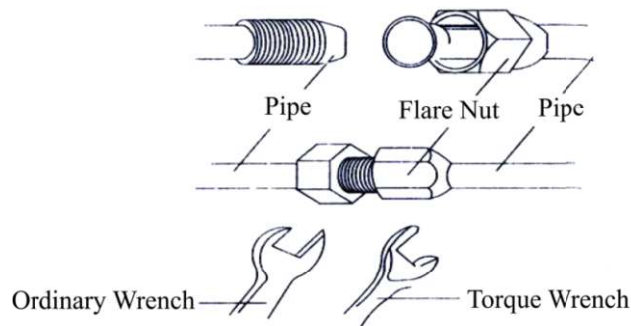

Fig.18
- After that, tighten the screw by the torque wrench unit it clatters (as shown in Fig.18).